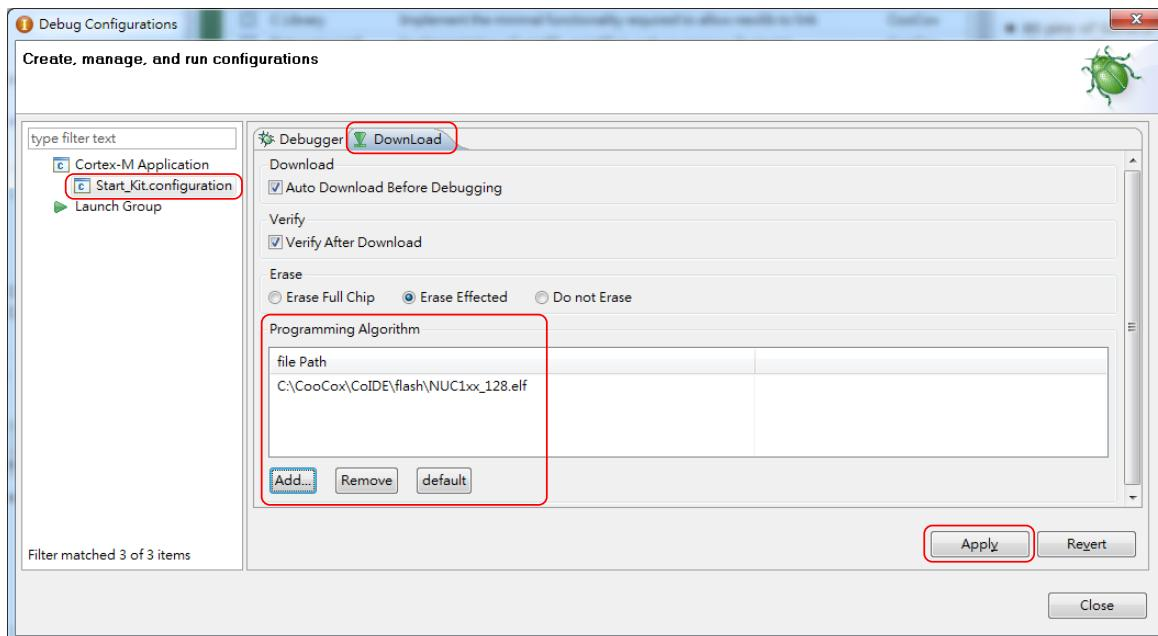

Figure 4-21 CooCox CoIDE Programming Settings
- Step 4: In the **Download** tab of the *Debug Configurations* form (through invoking **Debug → Debug Configurations**), select the **Auto Download Before Debugging** or **Verify After Download** option to proceed with a specific programming, and set the Programming Algorithm path as “C:\CooCox\CoIDE\flash\NUC1xx\_128.elf”, as shown in Figure 4-21.
Step 6: At last, click **Apply** to save the settings, as shown in Figure 4-21.